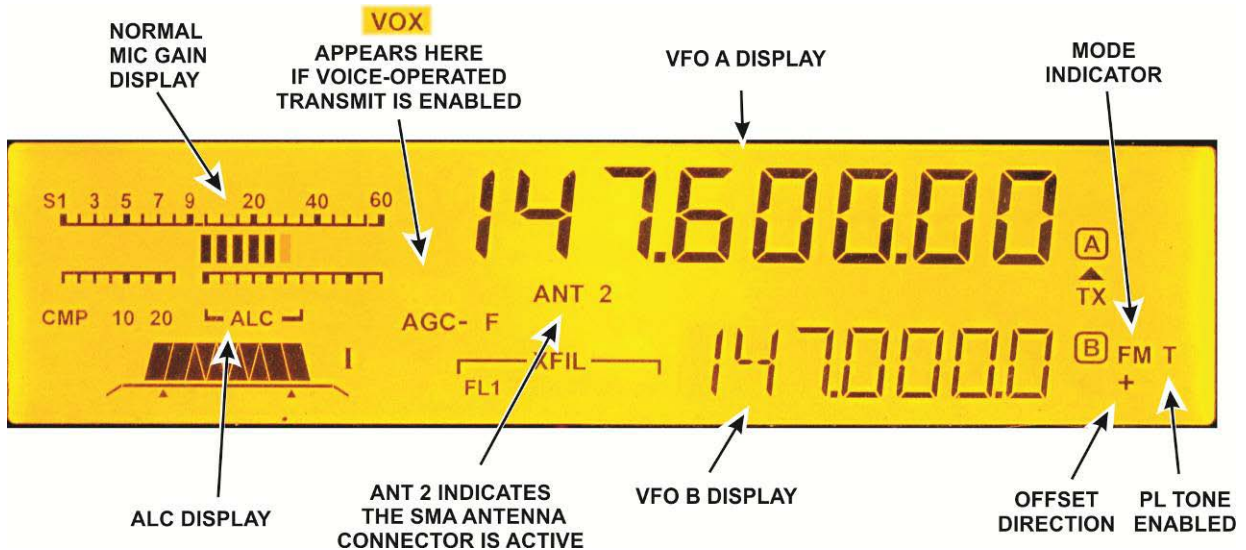

Figure 1. KX3 Display.
Connect your 2 or 4 meter antenna to the female SMA connector mounted on the KX3's right end plate. Note that when you select the 2 or 4 meter bands, ANT2 appears on the LCD indicating that the SMA connector is in use (see Figure 1 on page 5). The BNC connector is used only for the 160 through 6 meter bands.
Figure 1 shows the KX3 LCD identifying only those elements mentioned in the this text. See your KX3 Owner's manual for a complete description of the display.
- **Set Microphone Gain Level:** Press the microphone PTT switch and, while speaking normally into the microphone, adjust the **KEYER/MIC** control for 5 or 6 bars indicated on the LCD ALC display as shown in Figure 1.
- **Weak or Distorted Audio in FM Mode:** Check for proper microphone gain level. Press the microphone PTT switch and, while speaking normally into the microphone, adjust the  KEYER/MIC control for 5 or 6 bars indicated on the LCD ALC display as shown in Figure 1. Check that your deviation matches the receiving station (or repeater). For optimum results the deviation used at the transmitting station must match the deviation expected by the receiving station. If the deviation is too low the audio may sound weak. If the deviation is too high, the audio may be broken up and distorted. See *Frequency Deviation* on page 6 if you need to adjust the deviation.
- **Unable to Access Repeaters:** If you are sure you are in a location where your signal should bring up the repeater, check to ensure you are using the correct PL tone, that the PL tone is enabled for transmit and that the offset and offset sign are correct (see *Repeater Operation* starting on page 6). Be sure the Offset shown on the display (see Figure 1 on page 5) is correct for the repeater.